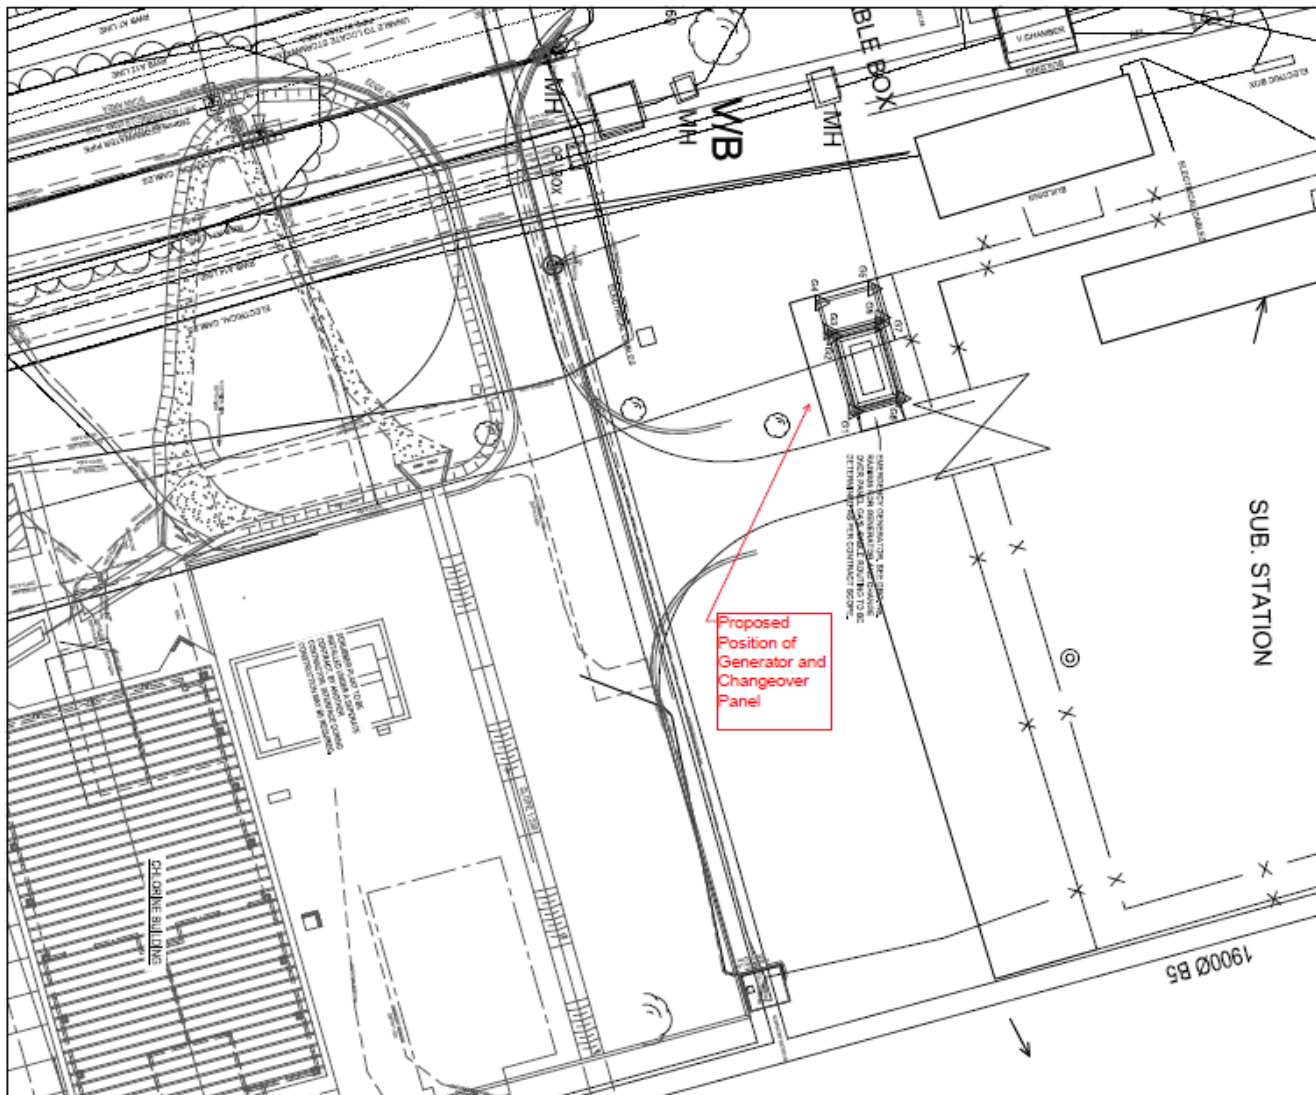

Figure 1 – Proposed Location of Generator Set and Change Over Panel
- 3.6 Setting out works (a proposed location for the generator and change over panel is shown in the Figure 1 below – the Contractor is to evaluate the feasibility of the location given all Contract requirements, any deviation from the proposed position must be approved by Rand Water. Comments on the proposed position must be raised before the completion of